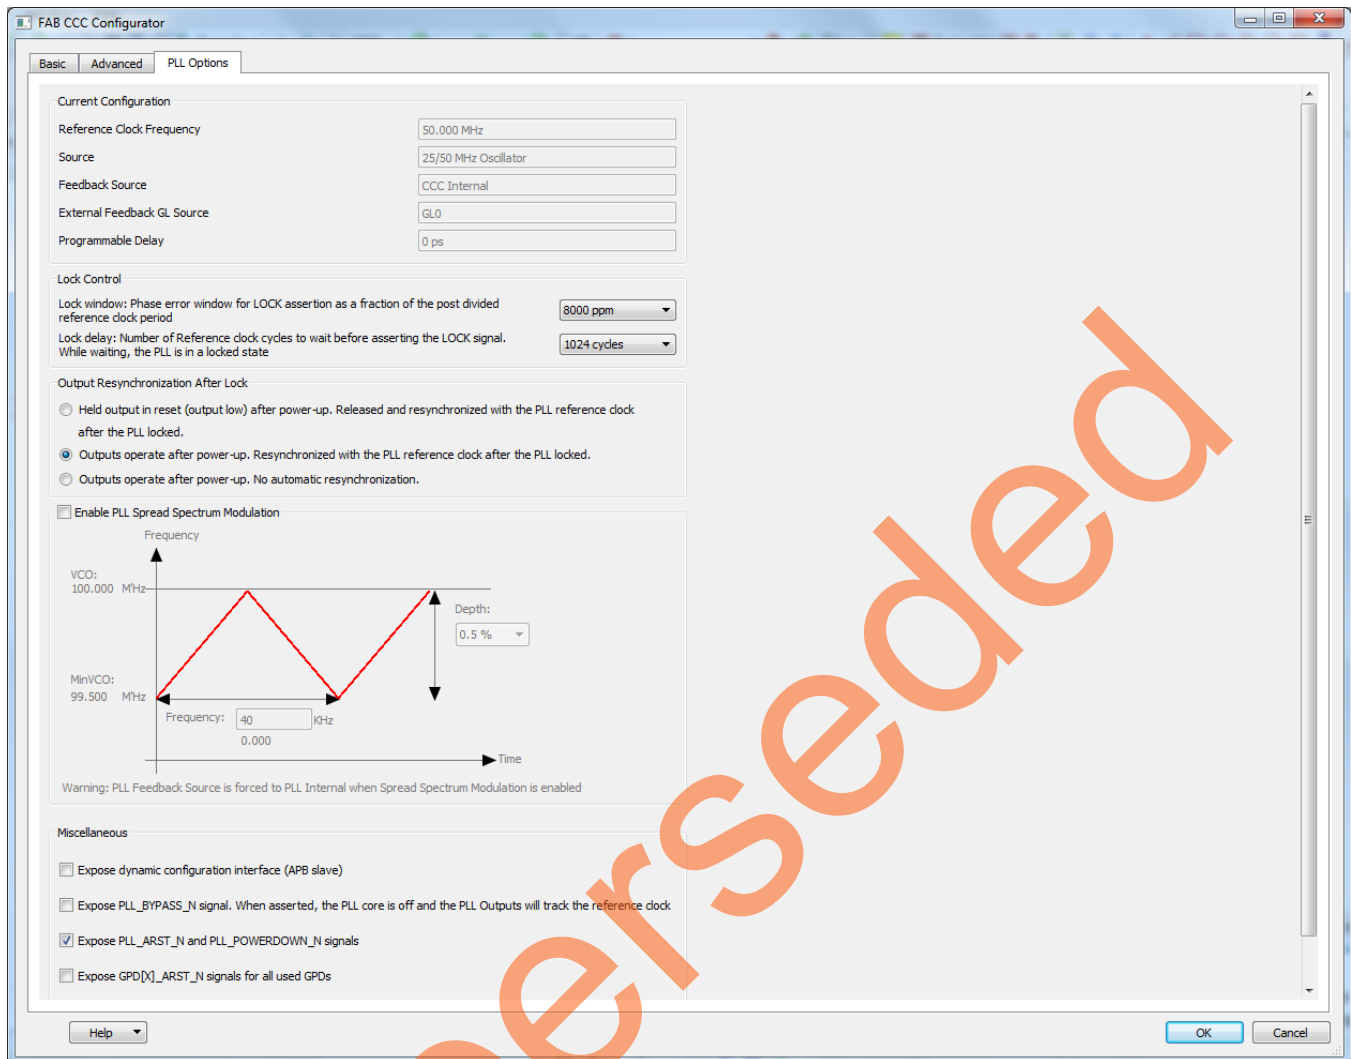

Figure 20. Exposing PLL Reset and Power-down Signals
- Select the **PLL Options** tab and select **Expose PLL_ARST_N** and **PLL_POWERDOWN_N** check box, as shown in Figure 20.